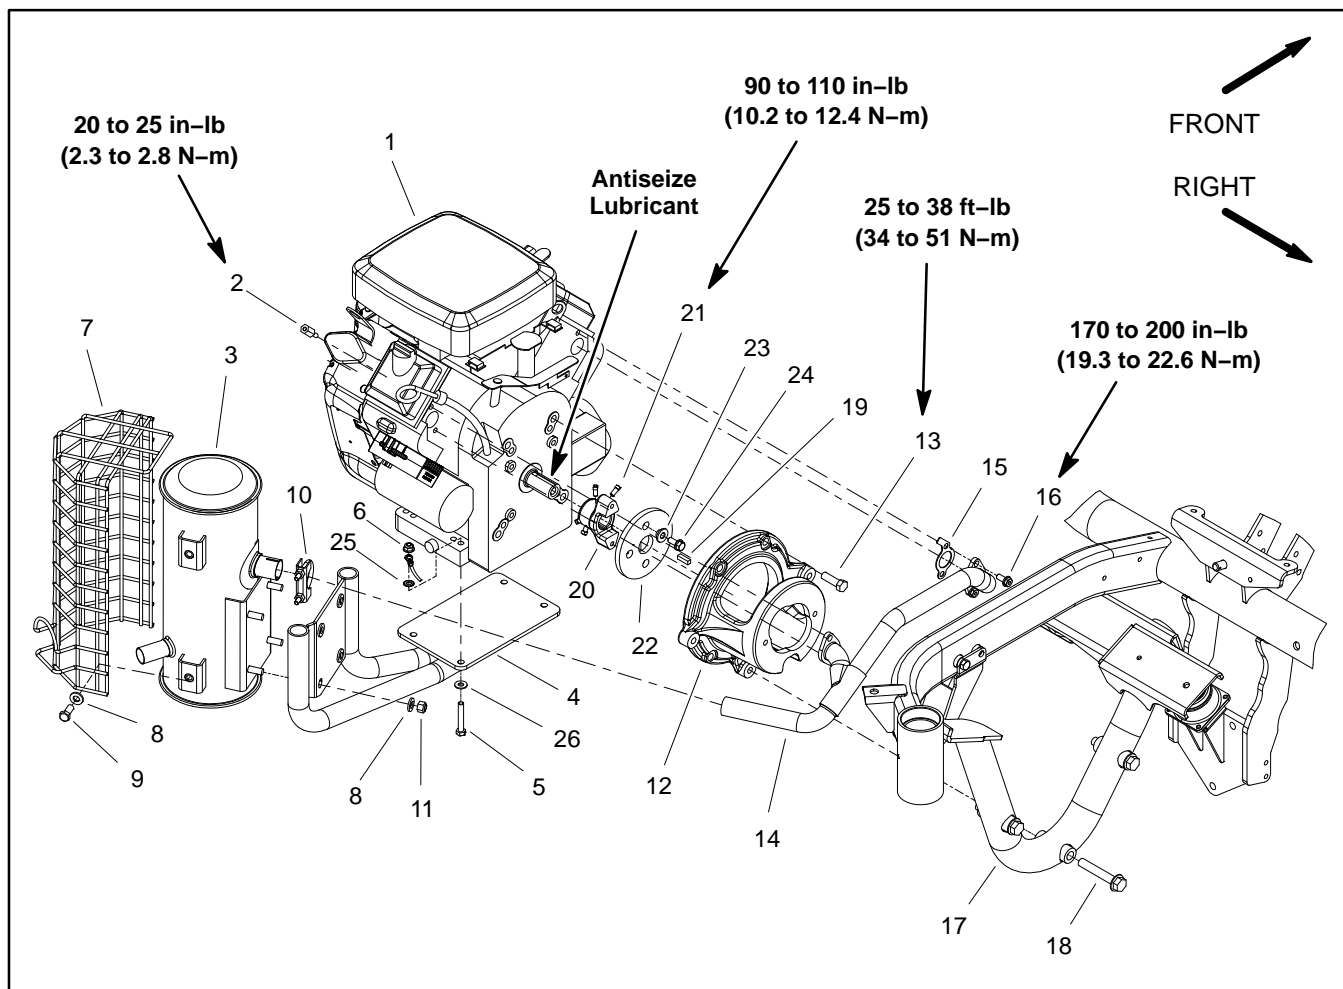

Figure 9
Engine Removal (Fig. 9)
11. Carefully move the engine assembly away from the pump mount to slide the engine crankshaft out of the engine hub (item 20). Once the crankshaft has cleared the hub, remove the engine from the machine.
12. Locate and retrieve square key (item 19) from engine crankshaft.
13. If necessary, remove exhaust system components from engine using Figure 9 as a guide.
Engine Installation (Fig. 9)
2. If exhaust system components were removed from engine, attach removed components using Figure 9 as a guide.
3. Apply antiseize lubricant to engine crankshaft. Position square key (item 19) to crankshaft.